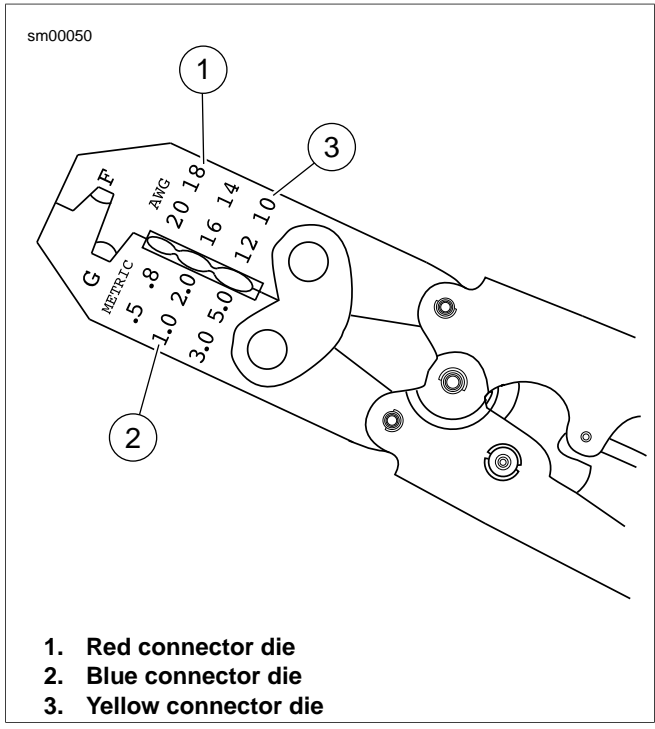

Figure A-24. Packard Crimping Tool (HD-38125-8)
- See Figure A-24. Open the PACKARD CRIMPING TOOL (Part No. HD-38125-8) ratchet by squeezing the handles closed.